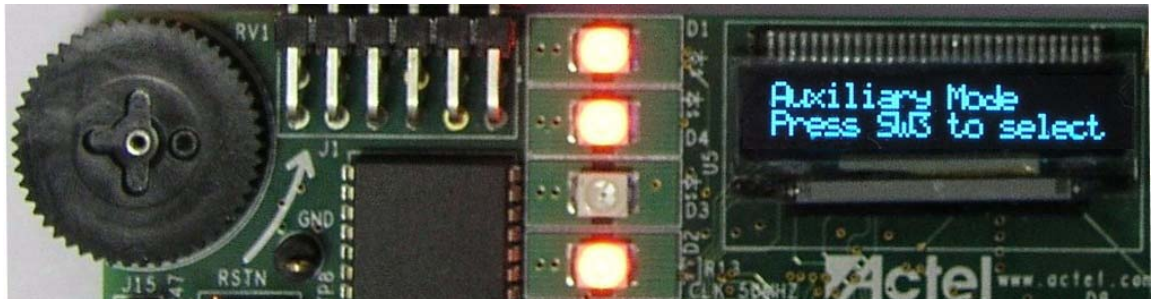

Figure 2-11 · Auxiliary Mode – Default Scroll Message
- Press SW2 to enter Auxiliary mode (Figure 2-11).